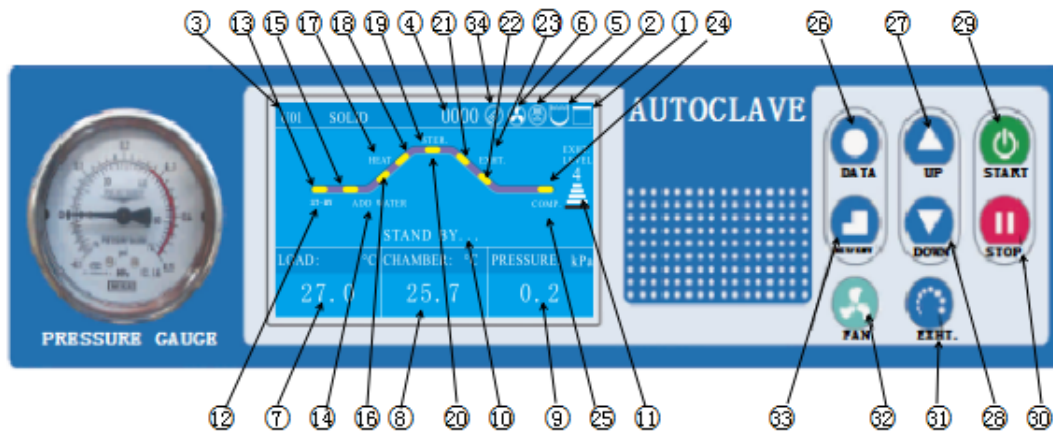

Figure 2
- 1) Check the front water tank of the instrument (Fig1), make sure the water level is under the high water level line, empty it if too high. If you don't empty it, the water will come out from the back of the machine (Fig2).